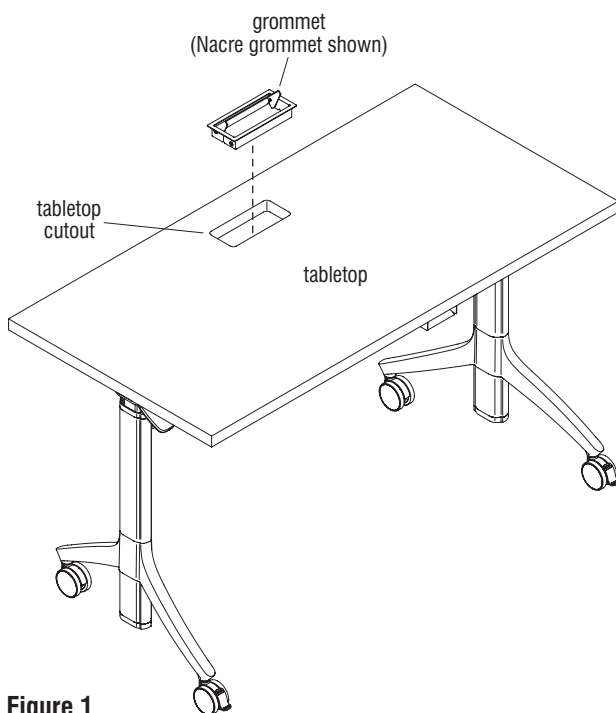

Figure 1
1. Position the Dean or Nacre grommet above the tabletop cutout with the lid opening towards the user (Figure 1 & Detail A or B).
2. Push the grommets into each cutout, tapping lightly with a rubber mallet if required. Use caution to avoid scratching the grommet (Figure 1 & Detail A or B).